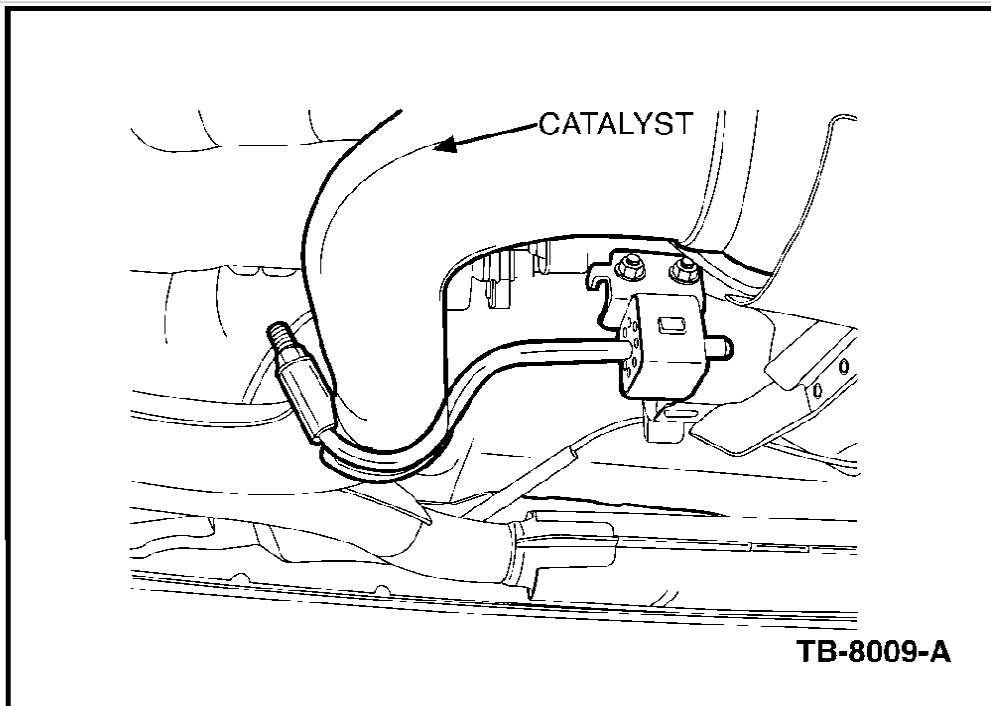

Figure 4
5. Loosely install the hanger rod and U-clamp around the exhaust pipe near the "Y" of the catalyist (Figure 4).
6. Slide the rubber isolator and bracket onto the rod with the bracket nuts facing the passenger side of the vehicle (Figure 4).
7. Adjust the catalyist height and U-clamp so that the rubber isolator bracket will attach to the transmission extension housing (using the rearward holes - Figure 4).
8. Install the two (2) bolts provided in the Kit and tighten to 18 lb-ft (25 N.m).